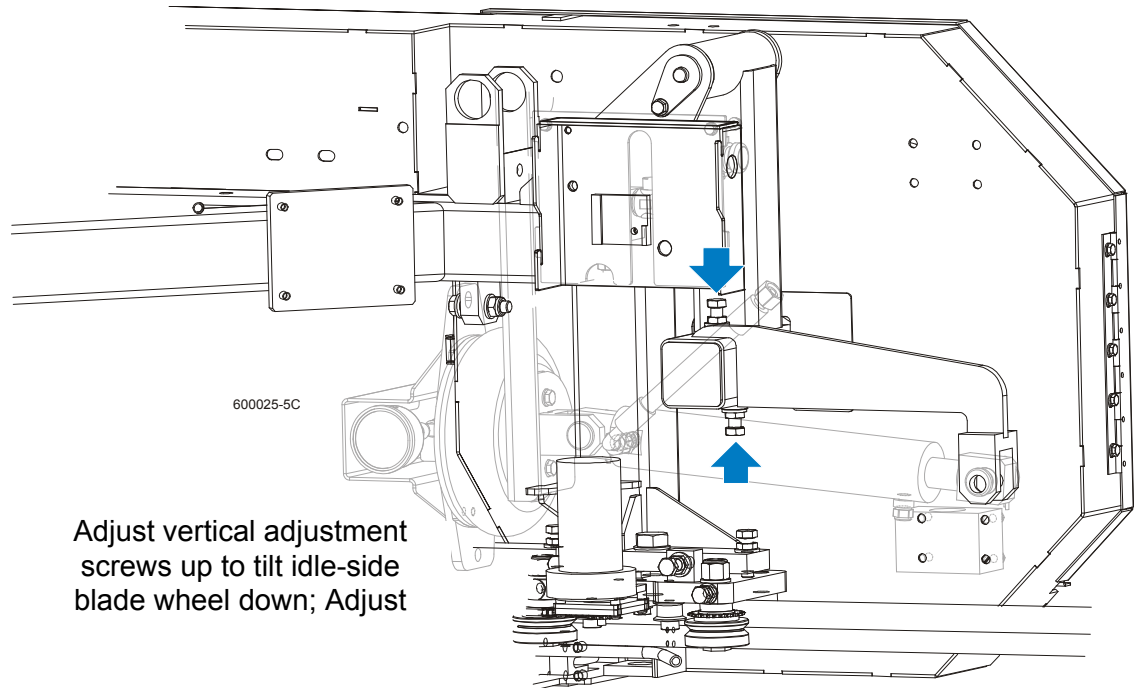

**FIG. 5-17**
**See Figure 5-17.** Use the vertical adjustment screws to adjust the drive-side blade wheel. To tilt the wheel down, loosen the top adjustment screw one quarter turn. Loosen the jam nut on the bottom adjustment screw and tighten the screw. Tighten the top and bottom jam nuts.